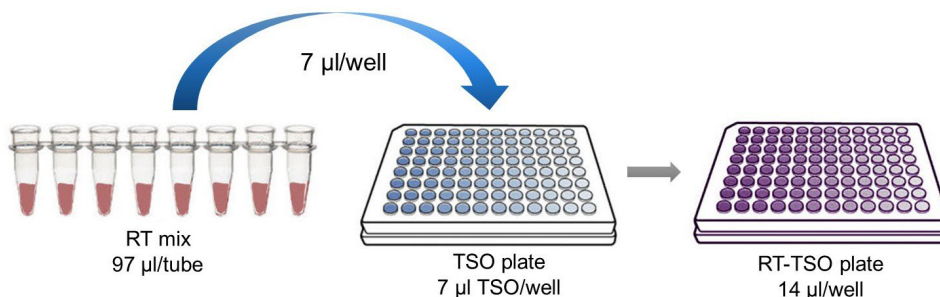

Figure 8. Creating the RT-TSO plate. The workflow illustrates Steps 8–9.
9. Using a multichannel pipette, add 7 μ l RT mix into each well of the **TSO plate** to create the **RT-TSO plate** (Figure 8). There is no need to pipette up and down to mix. Centrifuge the plate at 1,000g for 1 min at 4°C.